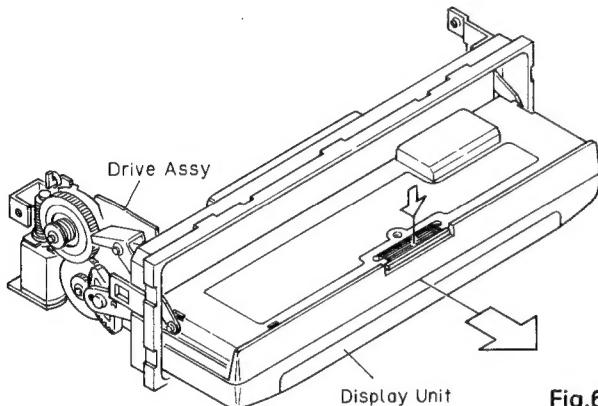

Fig.6
3. While holding down the lock button ,pull the display unit toward you.(Fig.6)